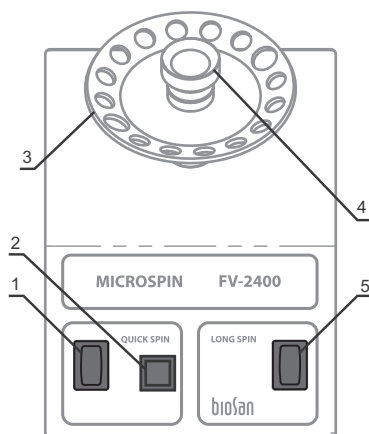

Fig. 1 Front panel
Unit is provided with the fixation mechanism for all the types of the above-mentioned rotors; operator can easily change rotor for the desired type of tubes in 3-5 s. To change a rotor, (fig.1/3) hold it with one hand and turn the vortex head (fig.1/4) counterclockwise to set rotor free. Change the rotor and turn in the vortex head back.
- 4.2. **Centrifugation mode.** Place **EVEN** number of tubes to the rotor sockets opposite one another. Turn the **QUICK SPIN** switch (Fig.1/1) into the position **I** (ON). Press the **QUICK SPIN** button (Fig. 1/2) for the quick mixing/ sedimentation and hold button pressed for the desired time. After releasing the **QUICK SPIN** button the unit will stop automatically. Turn the **QUICK SPIN** switch (Fig.1/1) into the position **O** (OFF).
- 4.3. **Vortexing mode.** Turn the **QUICK SPIN** switch (Fig.1/1) into the position **I** (ON). Gently holding upper part of the tube with fingers press tube's lower part to the vortex head conic cavity bottom (Fig.1/4). Press the **QUICK SPIN** button and hold it pressed till the full sediment dissolution.
To avoid fast erosion of vortex head and plastic tube surfaces do not press tubes to the vortex head too strong. Turn the **QUICK SPIN** switch (Fig.1/1) into the position **O** (OFF).
Turn the **QUICK SPIN** switch (Fig.1/1) into the position **I** (ON). Place **EVEN** number of tubes to the rotor (Fig. 1/3) sockets opposite one another. Turn the **LONG SPIN** switch (Fig.1/5) into the position **I** (ON) to start sedimentation. Turn the **LONG SPIN** switch (Fig.1/5) into the position **O** (OFF) to stop sedimentation. Turn the **QUICK SPIN** switch (Fig.1/1) into the position **O** (OFF).